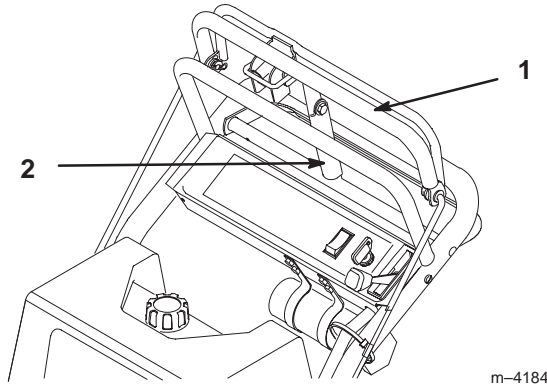

Figure 15
1. Pull the upper control bar rearward and hold it in this position (Fig. 15).
2. Lift the parking brake lock (Fig. 15) up and gradually release the upper control bar. The brake lock should stay in the set (locked) position.
1. Pull rearward on the upper control bar (Fig. 15). Lower the parking brake lock to the released position.